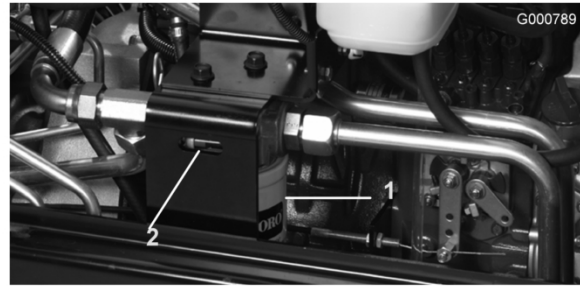

Figure 65
2. Clean area around filter mounting area. Place drain pan under filter and remove filter (Figure 65).